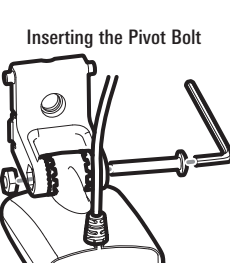

Figure 24
3. Put the pivot bolt through the assembly to hold it in position and loosely install the nut, but do NOT tighten the nut at this time (Figure 24).